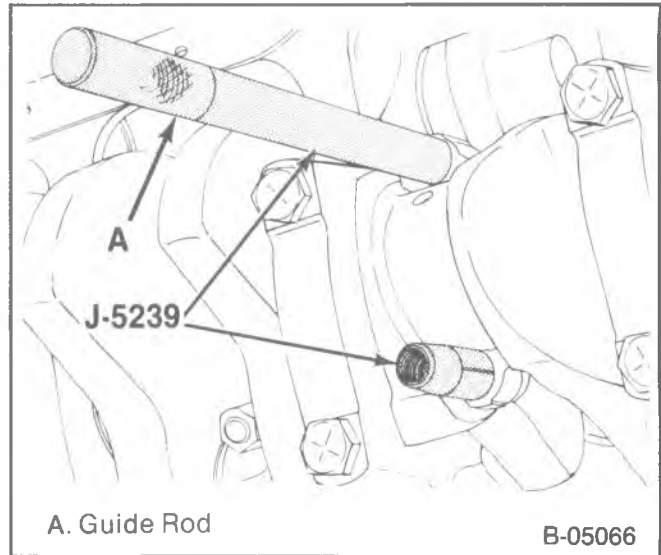
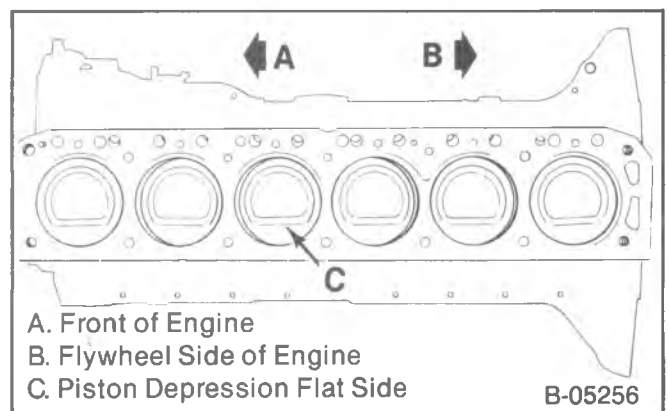

Figure 30—Replacing the Connecting Rod and Piston
Figure 33—Pistons Installed
↔ Remove or Disconnect (Figure 30)
- Attach J-5239 to the connecting rod bolts (figure 30).
Install or Connect (Figures 30 through 34)
- With the connecting rod cap removed, install J-5239 onto the connecting rod studs (figure 30).
- The piston must be installed so that the piston crown depression's flat side faces to the engine's left side (figure 33).
- Place the piston in its matching bore. Using light blows with a hammer handle, tap the piston down into its bore (figure 33). At the same time, from beneath the vehicle guide the connecting rod to the crankpin with J-5239 (figure 30). Hold the ring compressor against the block until all rings have entered the cylinder bore.